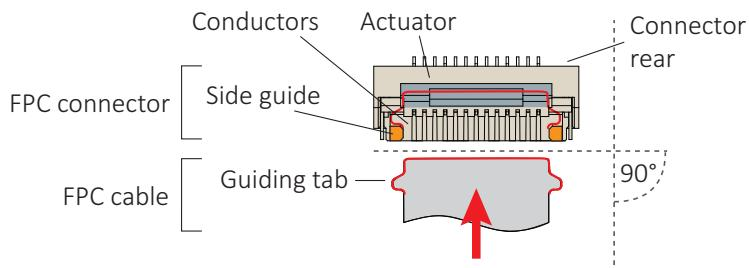

Figure 73: FPC cable and FPC connector
2. **Ensuring proper cable direction between host and camera**, take the FPC cable with conductors facing the FPC connector conductors (see Figure 73).
At a horizontal angle of 90 degrees to the connector's rear (see Figure 73) and at a vertical angle of 12 degrees to the PCB (see Figure), slowly insert the FPC cable into the actuator...
4. ...until cable guiding tabs are caught between connector rear and side guides (see Figure 73). Pull the cable slightly to ensure guiding tabs are properly engaged.